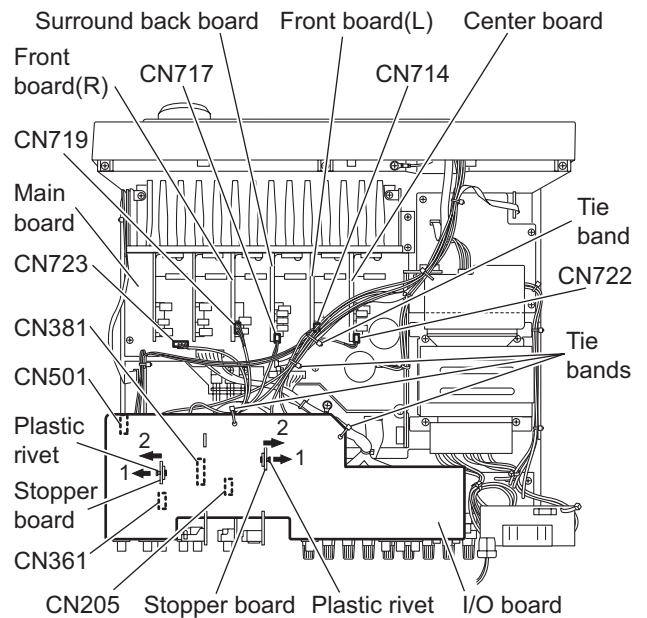

Fig.3
3.3 Removing the I/O board (See Fig.3)